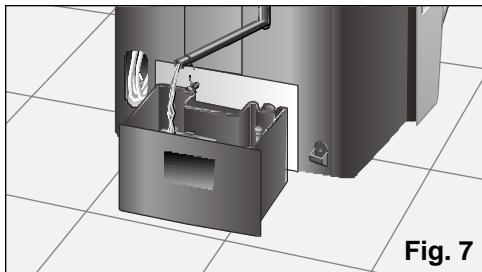

Fig. 7
- ❑ If it is necessary to tilt the appliance in order to transport it, empty any water from the internal tank by removing the drainage tube from its housing and removing the plug, **Fig. 7** to drain any water deposited. Do not forget to replace the plug and reinsert the pipe in its housing when the tank is empty.